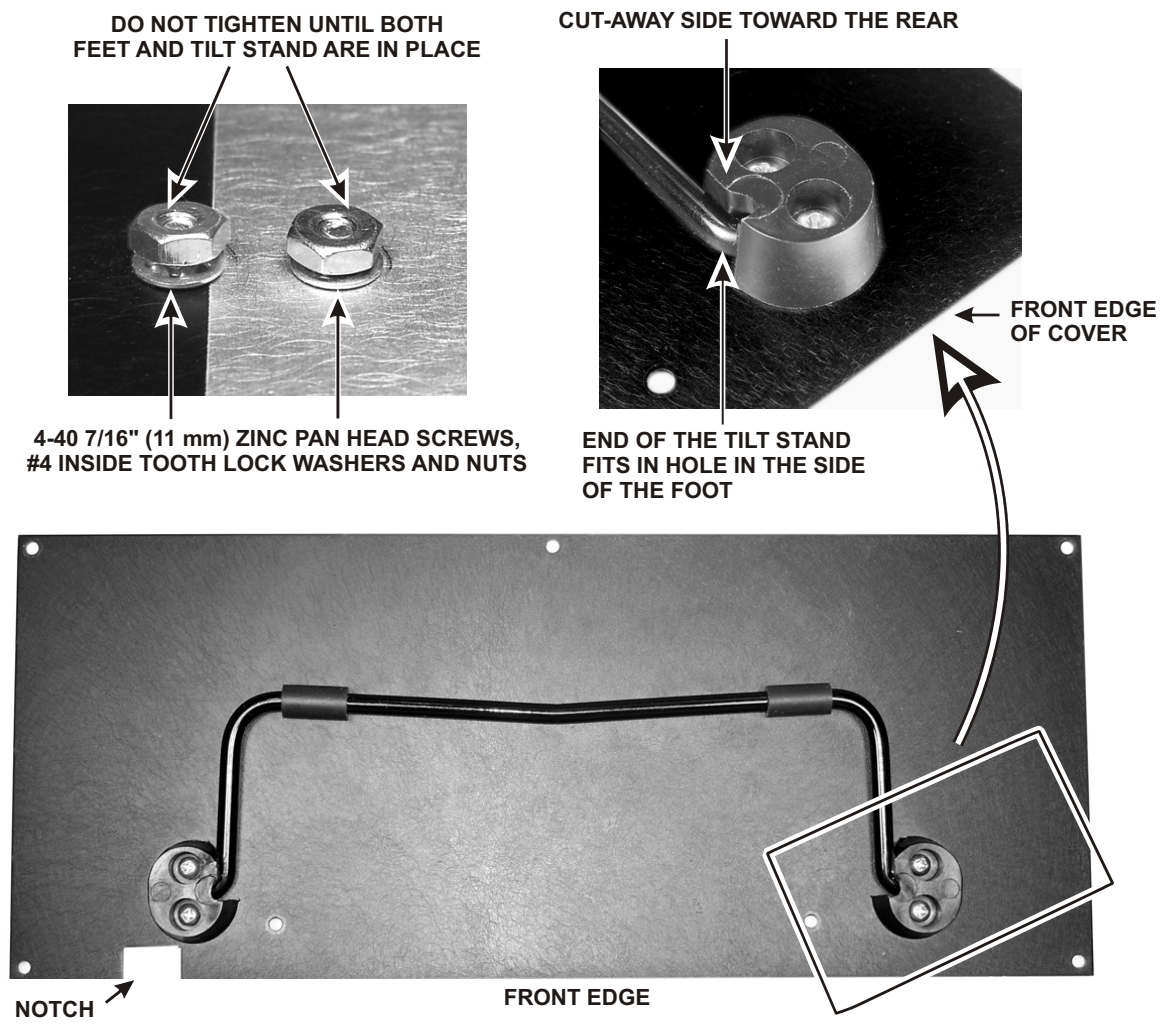

Figure 69. Installing Tilt Stand.
- Identify the bottom cover forward section by test fitting it on the bottom of the K3. The forward section is the thinner panel with a notch along one edge (see Figure 69).
- Attach one tilt stand foot to bottom cover section A as shown in Figure 69 using a 4-40 7/16" (11 mm) zinc pan head screw. The foot goes on the fully-painted side of the cover, oriented as shown. Be sure the cut-away side of the foot is farthest from the edge of the panel and the hole for the tilt stand faces the holes for the other foot. Use a #4 inside tooth lock washer and #4 nut to secure each screw. Do not tighten the hardware. Start the nuts onto the screws only a few turns so the foot is free to move about.